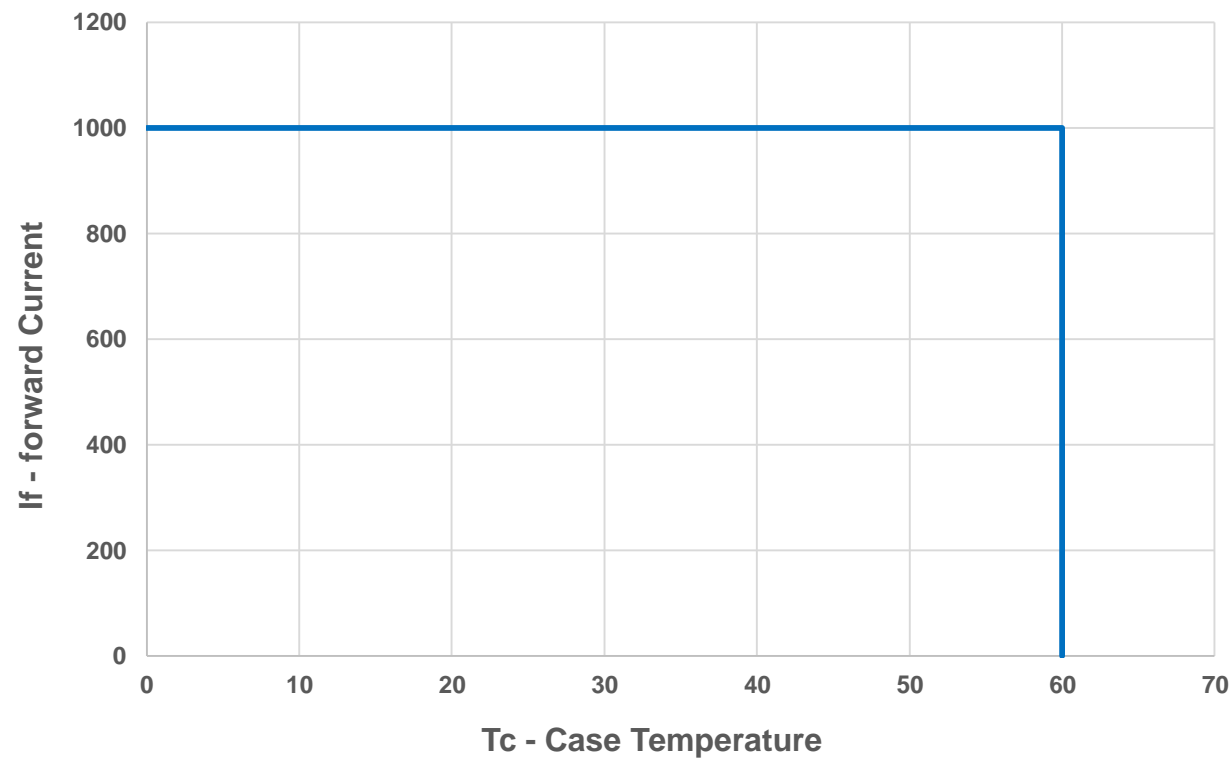

Figure 11: Maximum forward current vs. case temperature
- Maximum DC forward current is determined by the overall thermal resistance and ambient temperature. Follow the curves in Figure 11 for current derating.
- Notes for Figure 11: